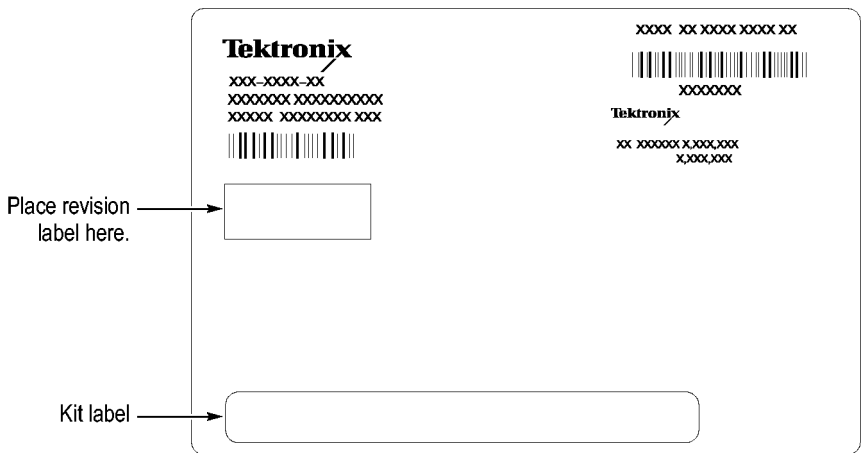

Figure 55: Attach the revision and kit labels
1. Locate the big label on the bottom of the instrument, and then attach the TLA7KUP kit label. (See Figure 55.)